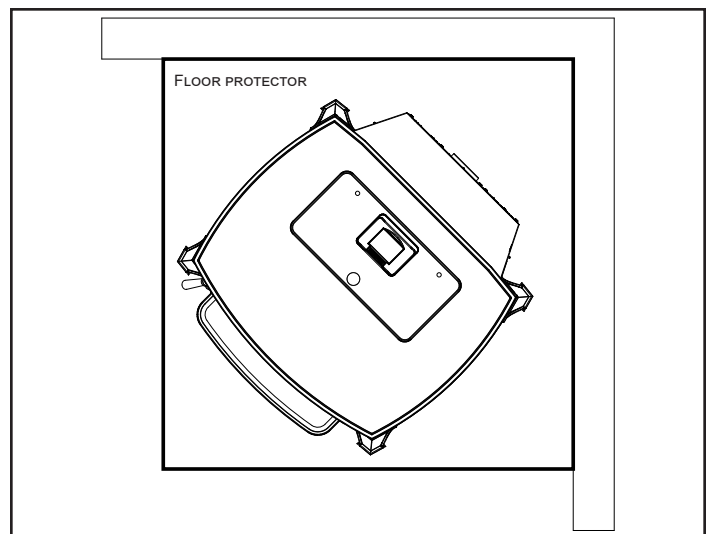

Figure 3.4
**Note:** **This will allow the floor protection to touch the wall as shown. Figure 3.4.**